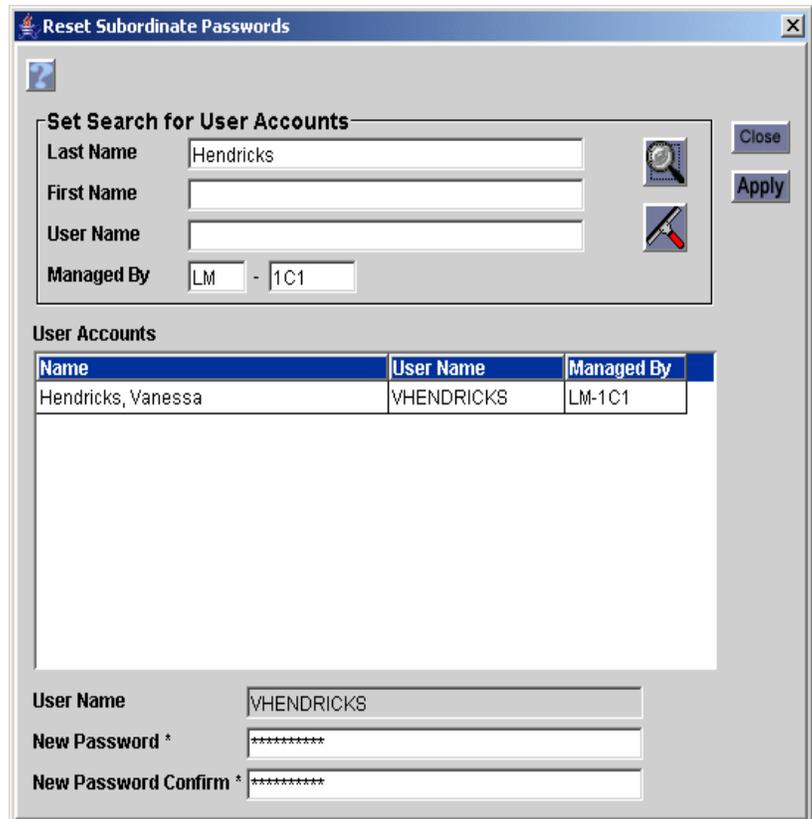

Figure 10. Reset password at subordinate center.
- A new ‘Reset Subordinate Password’ button (bottom of User Account screen) is used to reset passwords for accounts *at any center that is subordinate to the Account Manager’s current center* (Figure 10). When reset by an Account Manager, the new password is not required to be different than the last ten passwords.